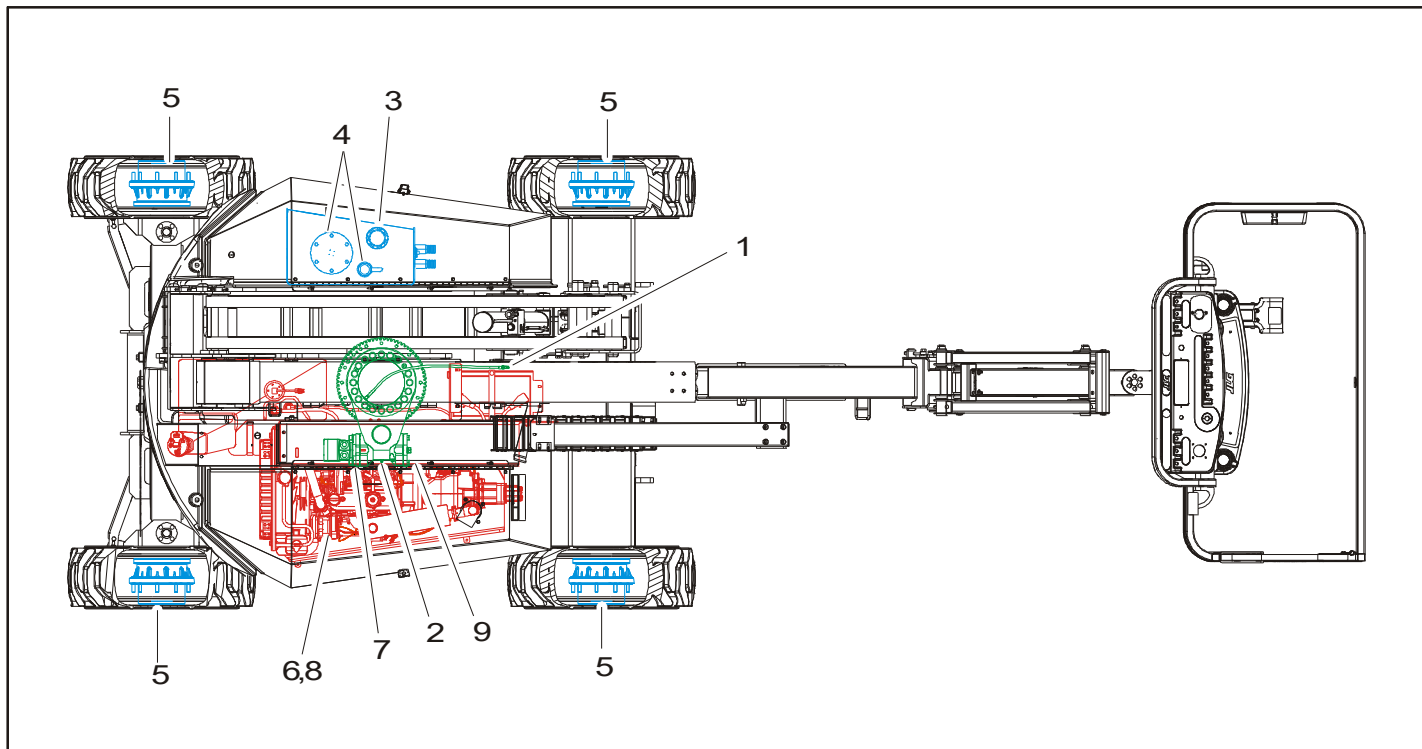

Figure 6-6. Operator Maintenance and Lubrication Diagram
**NOTE:** The following numbers correspond to those in Figure 6-6., Operator Maintenance and Lubrication Diagram.